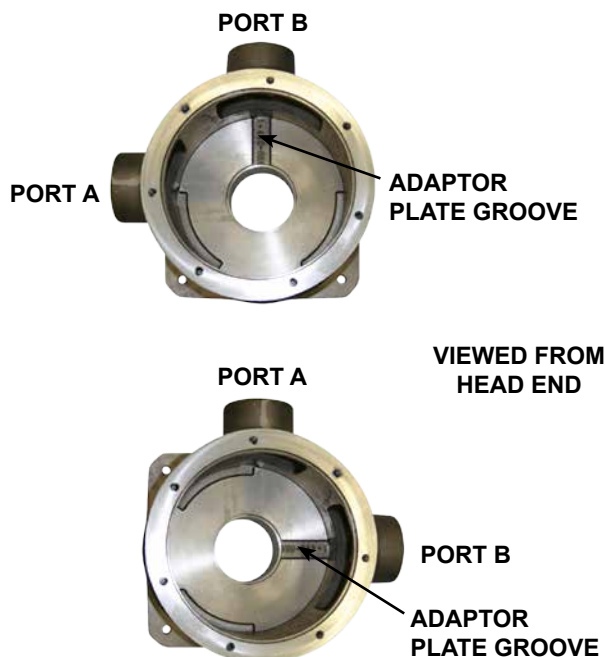

FIGURE 11
2. Position the adaptor plate so the adaptor plate groove aligns to groove in the casing bore at Port B, see **Figure 11** on page 8 (The adaptor plate in the K & KK models have a single groove, the L-LS models have a groove and two machined relief pockets.) Carefully slide the plate